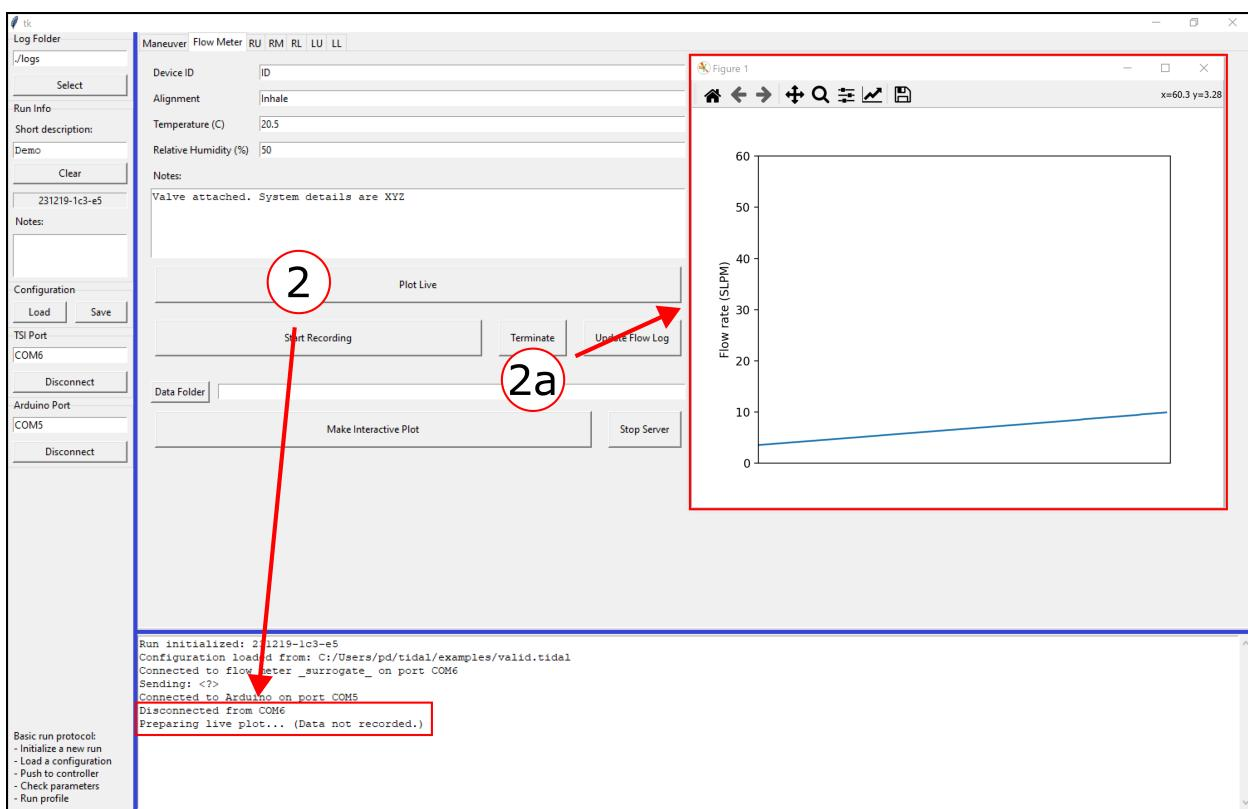

Figure 15: Live plot example.
2. (Optional) To run a live plot, click the **Plot Live** button, and a new window will appear. (**Figure 15**)